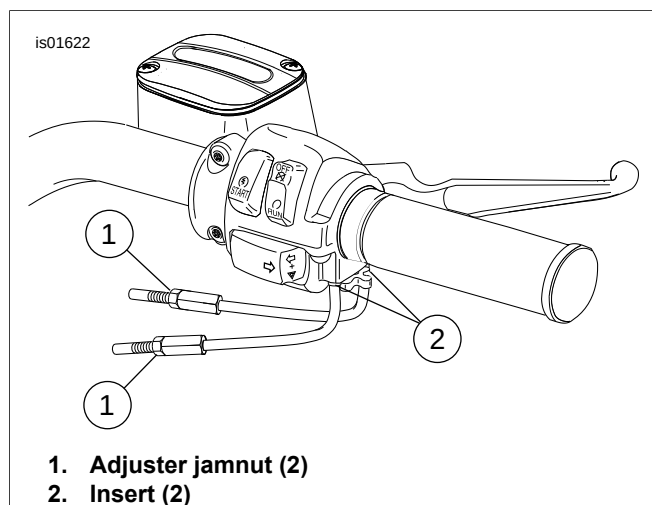

Figure 2-21. Handlebar Throttle Control
1. See Figure 2-21. Loosen cable adjuster jamnuts (1). Screw throttle cable adjuster until it is as short as possible.